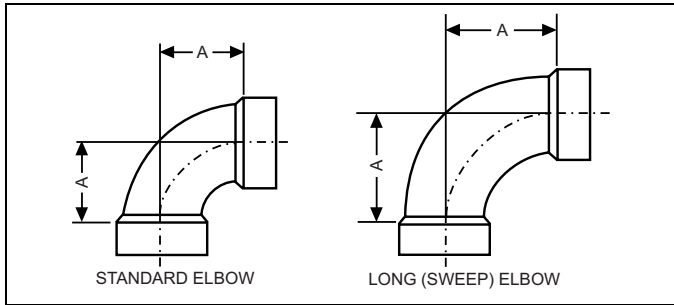

FIGURE 28: Dimensions
1. Drain, waste, and vent (DWV) elbows with a long radius (sweep) are recommended. Standard DWV elbows may be used, but since they have a longer equivalent length, they will reduce the total length of pipe that will be allowed. Short radius (plumbing or pressure) elbows are not allowed for venting. The standard dimensions of the acceptable elbows are shown in Figure 28.
Elbow	“A” Dimension (Illustrated in Figure 28)